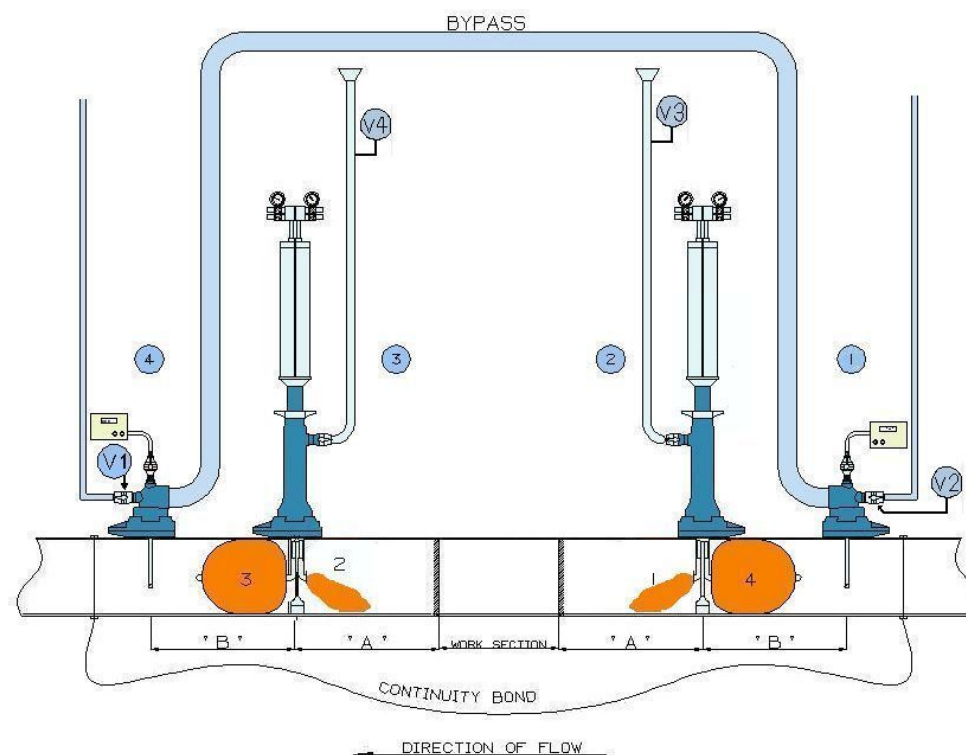

Figure 79—Purging Without Using the Purging Rider
2. Deflate the upstream Secondary Bag no.1 (refer to Figure 79).
3. Close Vent Valve at the downstream Bag Canopy V4 and deflate the downstream Secondary Bag no.2 (refer to Figure 79).